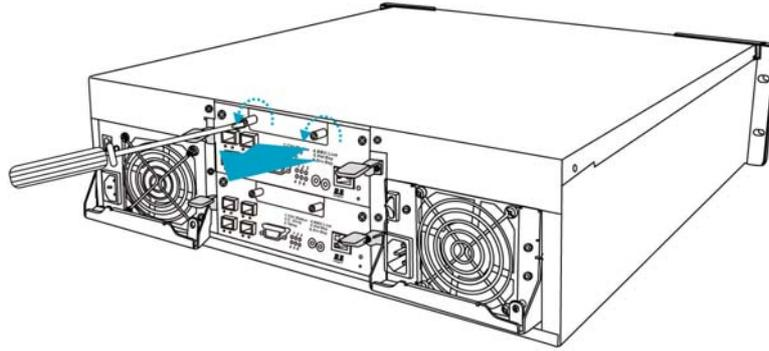

Figure 2-11: Removing the BBU Slot Dummy Plate
- Step 1.** Remove the BBU slot dummy plate from the chassis by loosening the two (2) retention screws on the sides using a Phillips screwdriver, and then pulling the dummy plate away. (See *Figure 2-11*)